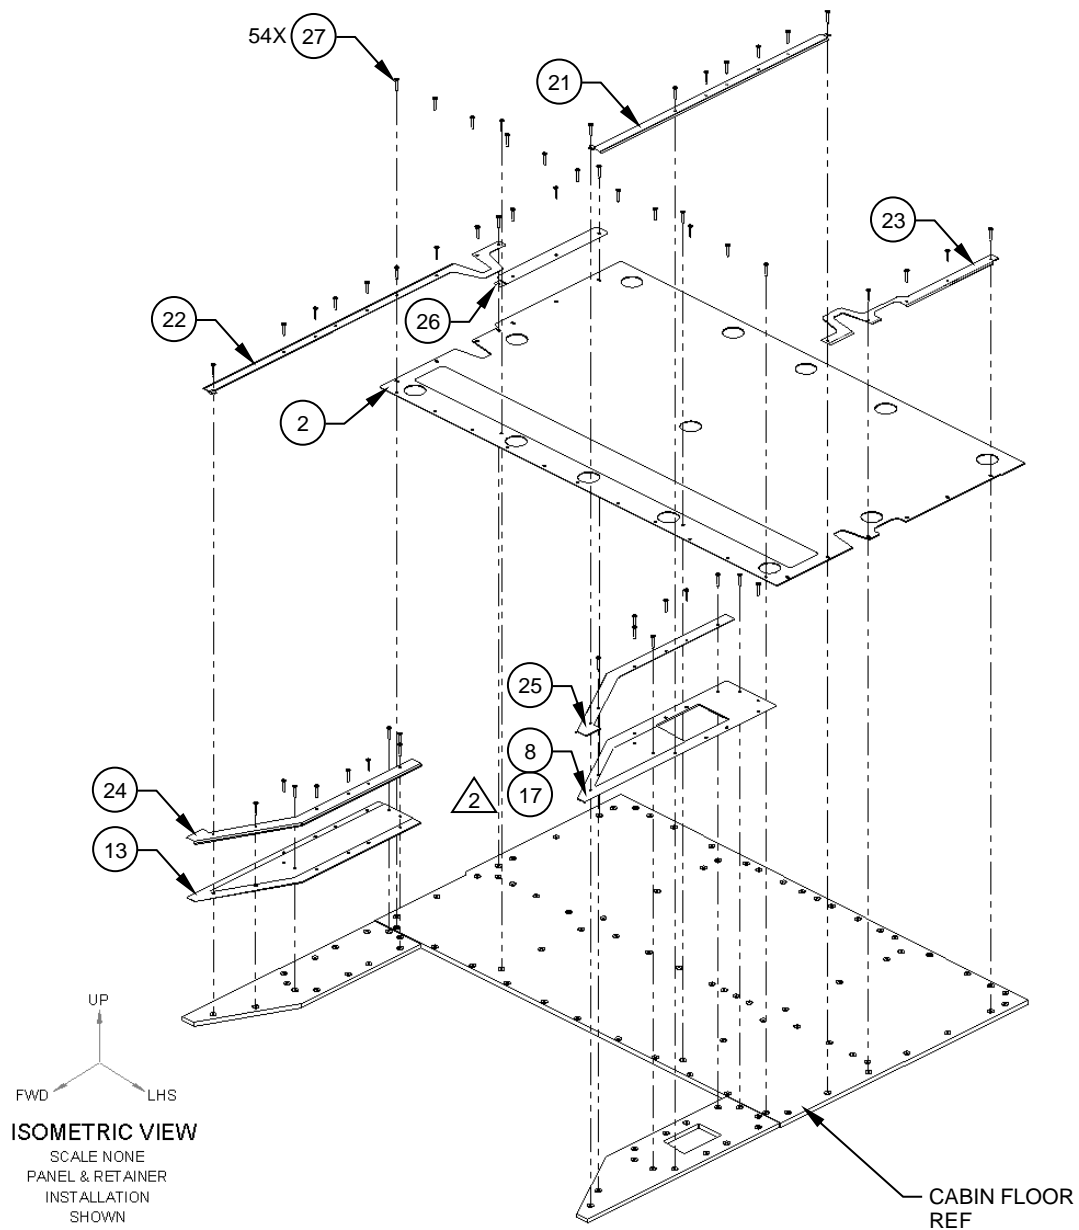

Figure 1
1. Gain access to the aircraft and make ready for maintenance. Temporarily remove all passenger seats. Reference Figure 1.
2. Remove 54x Screw, Washer Head, (Item 27), in the locations shown. Reference Figure 1.
3. Remove the 1x LHS FWD Sill, Detail, (Item 21), 1x RHS FWD Sill, Detail, (Item 22), 1x LHS AFT Sill, Detail, (Item 23), 1x RHS INBD Sill, Detail, (Item 24), 1x LHS INBD Sill, Detail, (Item 25), and 1x RHS AFT, Sill, Detail, (Item 26), from their respective locations. Reference Figure 1.
4. Remove either, LHS, FWD Panel, Assy, (Item 8), or LHS, FWD Panel, Non Dual, Assy, (Item 5), from it's respective location. Reference Figure 1.
7. Re-install 100x OEM fasteners. Reference Figures 1 & 2.